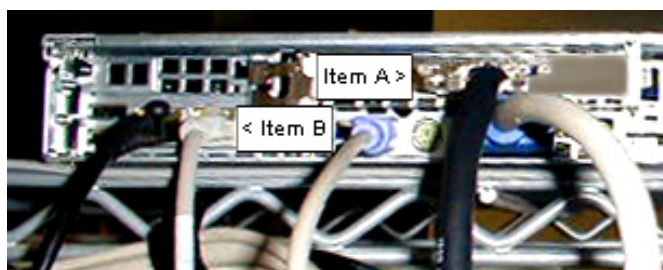

Figure 1: Back of the ER unit
- A. Plug the SCSI cable into the upper right slot on the back of the ER unit (see Figure 1, Item A).
- B. Plug one end of the CAT-5E crossover cable into the ER unit's LAN 2 port—the port on the right (see Figure 1, Item B).